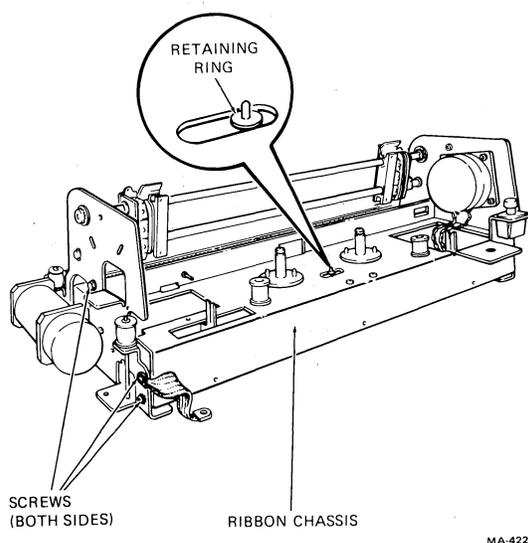

Fig. 15—Ribbon Chassis Assembly Removal and Installation
- (c) Remove the retaining ring that holds the pushrod in the ribbon chassis (Figure 15).
- (d) Remove the four (6-32) screws, flat washer, and star washers that secure the ribbon chassis to the right and left-hand side plates (Figure 15).
- (e) Remove the two (8-32) screws and washers that secure the ribbon chassis to the right and left-hand side plates (Figure 15).